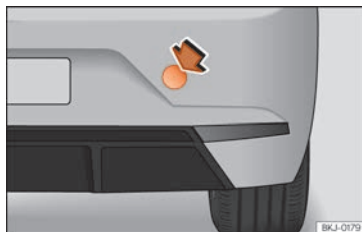

Fig. 158 Rear bumper on right: remove the lid.
The housing of the screw towing eye is on the right side of the rear bumper behind a lid >>> Fig. 158.
- Press the top right hand side of the cover >>> Fig. 158 to unclip it.